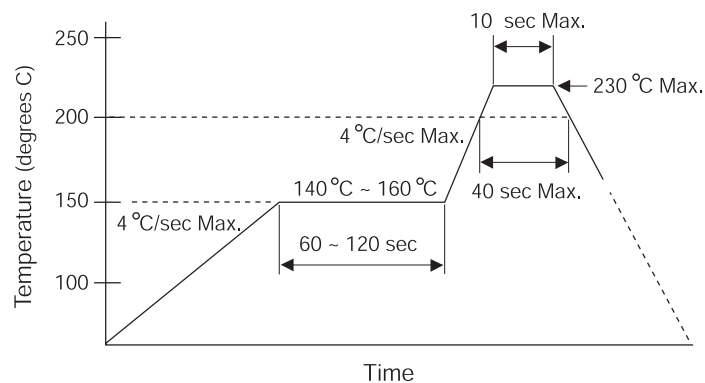

Figure 5. Temperature Profile at the Top Surface
- The temperature profile at the top surface of the ZHX1000 SIR transceiver, shown in Figure 5, is recommended.